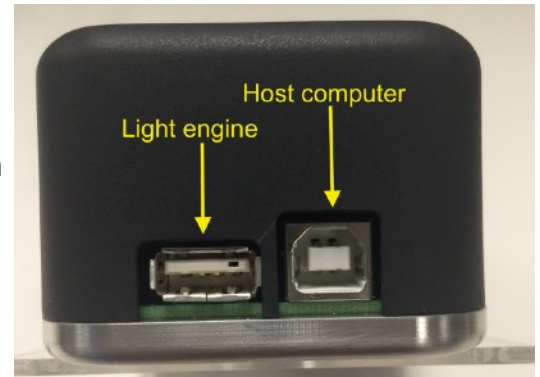

Figure 6. USB connectors on the rear of the light engine control pod (83-10007).
4.5.1 Before starting up the light engine, use the USB A-to-USB B cable (29-10058) to connect the SOLA to the control pod (Figure 6). The control pod is available for purchase as an optional accessory (p/n 83-10007).